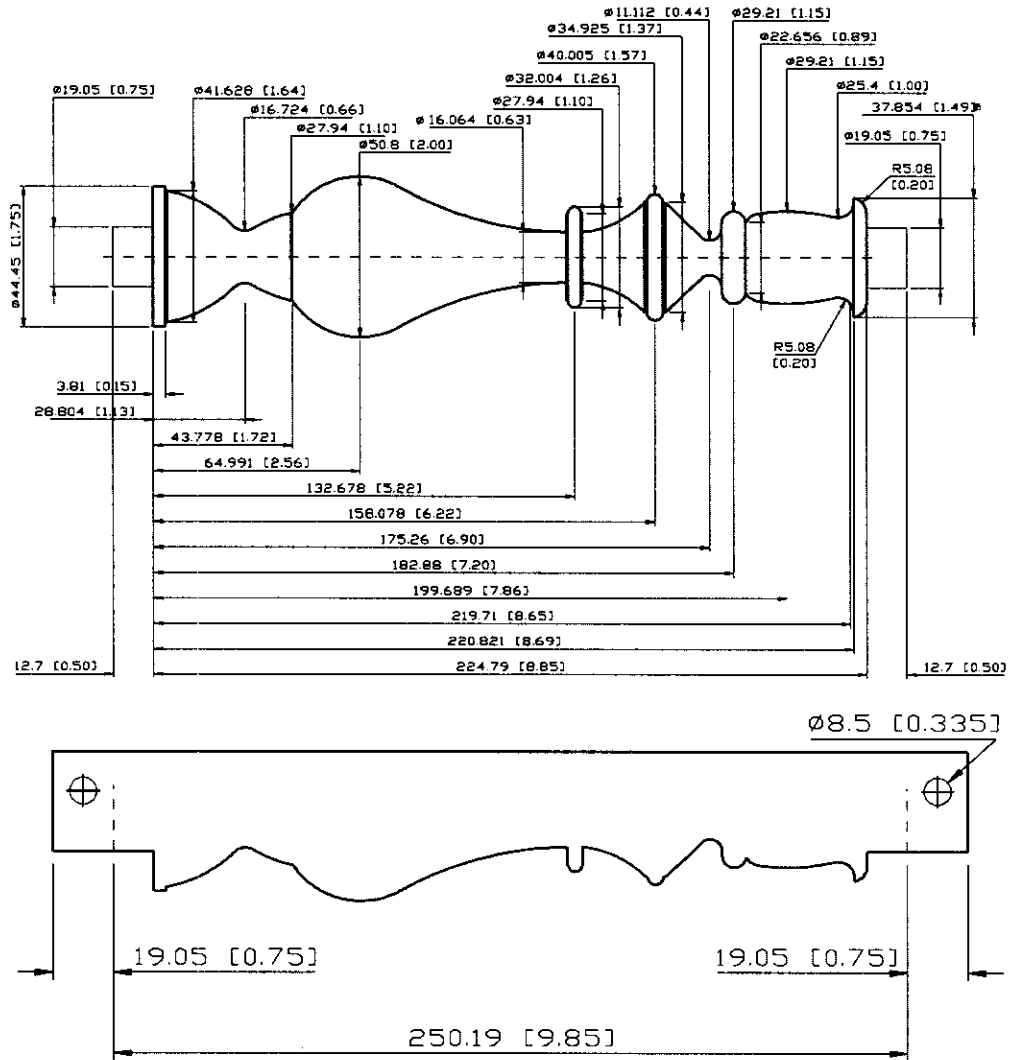

Figure 12 - Using a Template
Refer to Figures 12, 13 and 14 (pages 7, 10 and 12).
- Figure 12 on page 7 shows an example for using a template.